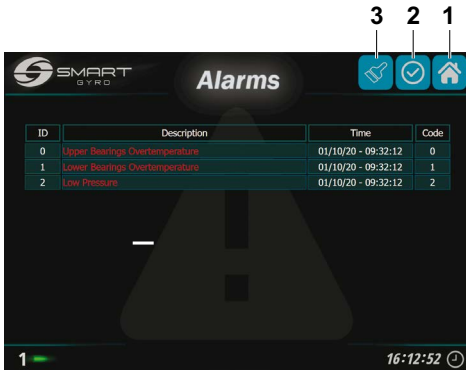

Figure 29
If the check list icon is pressed (Figure 29, (2)), the alarm messages will change to green (alarms are “acknowledged”).
Alarms not present anymore in the system can be removed from the list (Figure 32), pressing the paint brush symbol icon (Figure 29, (3)). As in the performance monitor page (see next paragraph), the bottom right corner shows the ID number of the gyro the anomalies refer to.
Pressing the Home icon on the top right corner (Figure 29, (1)) will return you to the Home page.